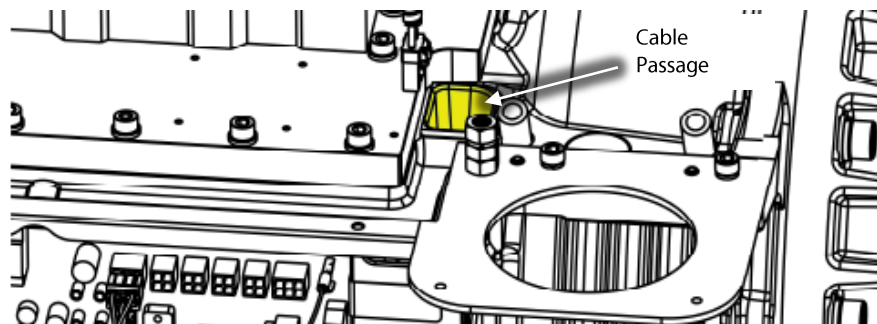

Figure 8 - Cable Passage
4. Route the cable into the cable passage beside the DC-DC Converter, down into the service side. Refer to Figure 8 – Cable Passage.